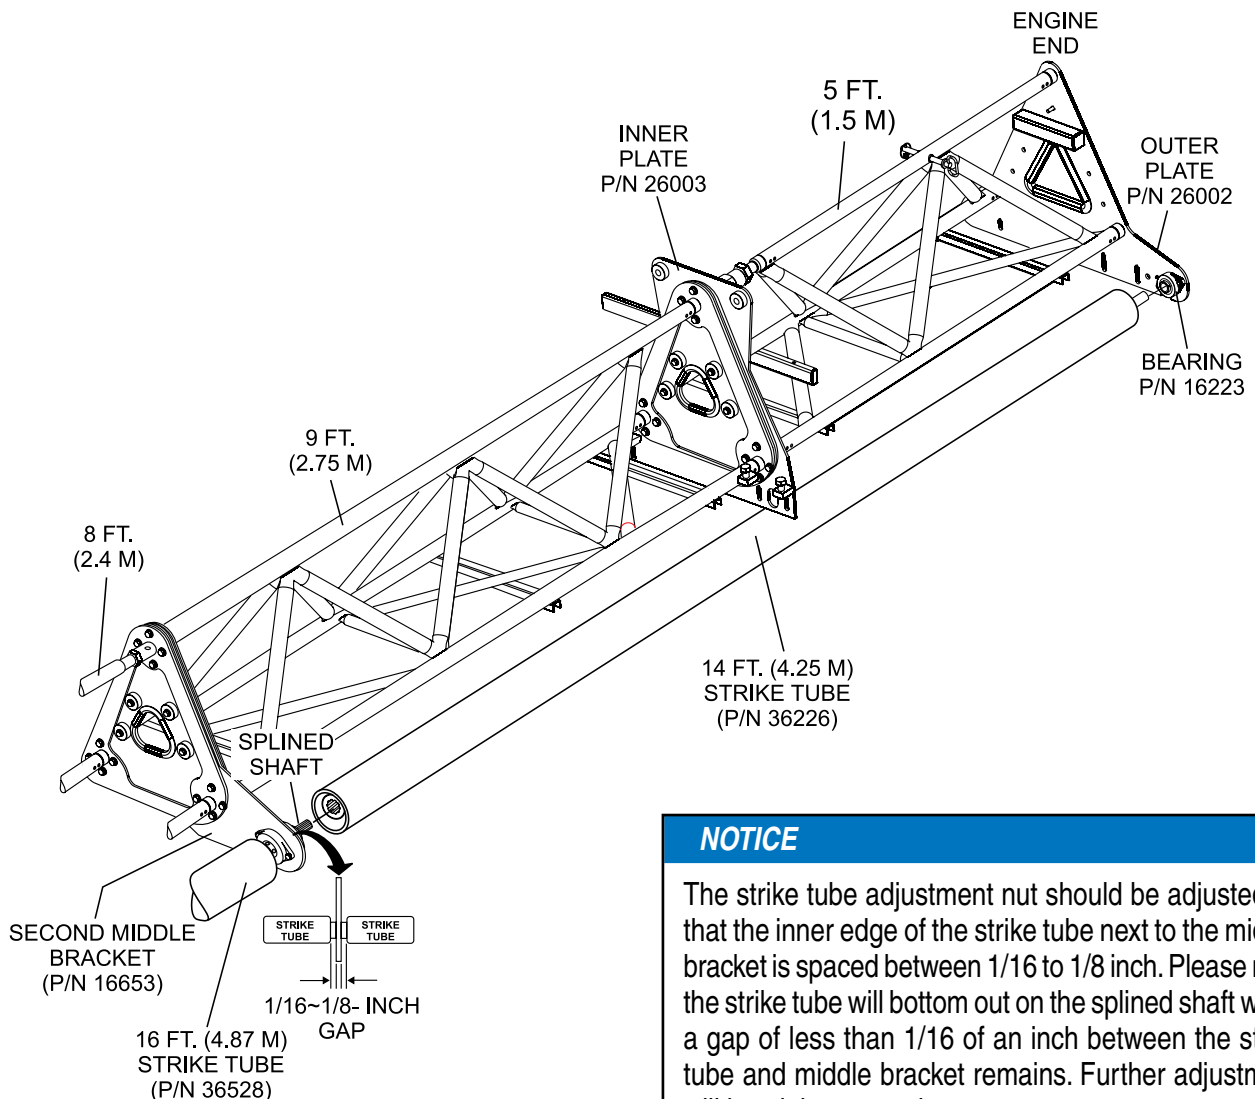

Figure 22. Strike Tube Engine End (14 ft./4.25 m)
2. Insert one end of the 14 ft. (4.25 meters) strike tube onto the exposed-end of the splined shaft located on the **second middle bracket** (Figures 22).
3. Verify that the strike tube bearing has been (Figure 22) mounted on outer plate at engine end of the screed. If bearing has not been installed, please see next step. Otherwise proceed to step 5.
4. Secure strike tube bearing to outer plate (engine end) with 7/16-14x2 HHSC screws (2) and 7/16 nyloc nuts (2). Torque bearing support nuts to 75 ft.-lbs ( 102 N·m).